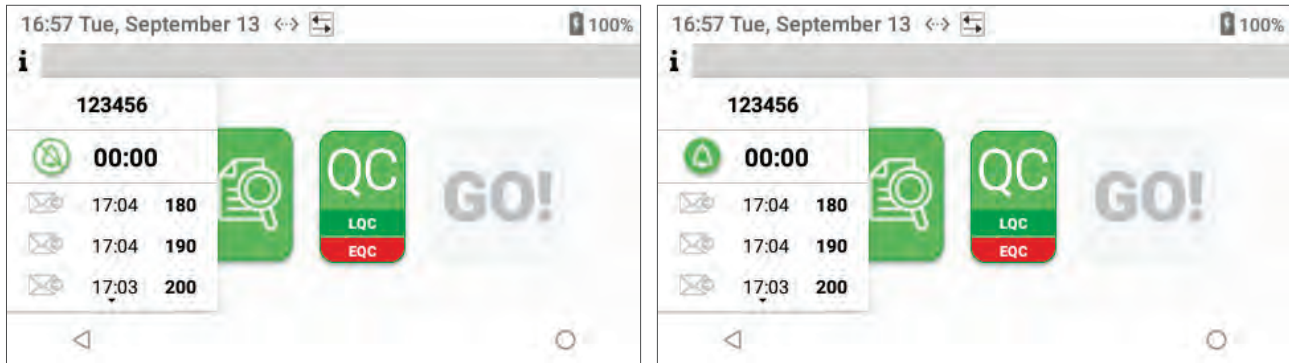

Figure 55: Test Interval Timer Feature – Disabled to Enabled
- 1 On the **Home** screen, select **i** (Information), then change the status from  (Disabled) to  (Enabled). See Figure 55.